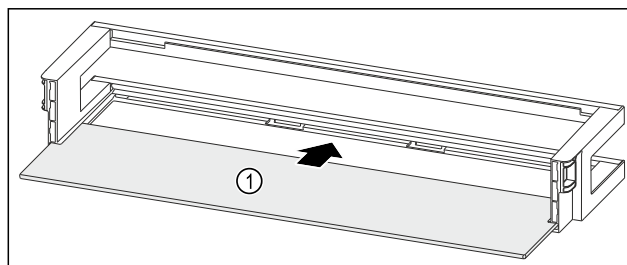

Fig. 164 Door rack with shelf
- Push the shelf Fig. 164 (1) into the side recesses.